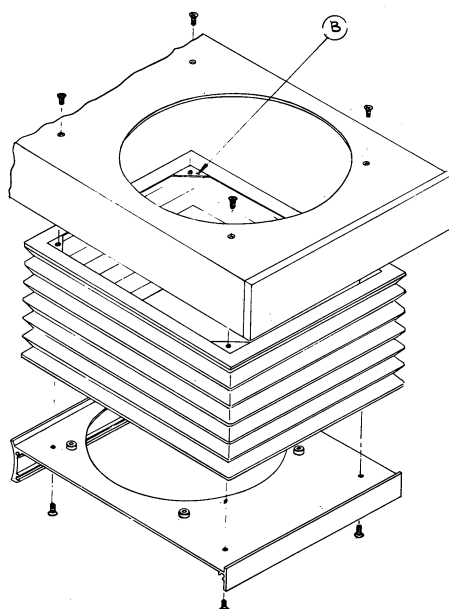

Figure A-1. Rework of Bellows Assembly
Procedure - Refer to figure A-1 and proceed as follows:
Press Nut Check - Using a #10 (5/32") Allen key, remove the center socket head screw and lock washer (C, figure A-1) from the lens stage. (Note that later versions use a 5/16" slotted head hex screw.) With a small penlight, check to see if the hole above (which has the front end of the screw in it) is surrounded by steel or black paint. If it is steel, the part is up to date and does not require replacement; however, if it is black, the lens stage swivel requires replacement, as described in the following paragraph.
- a. Loosen (but do not remove) the tension nuts (F, figure A-1) for both focus rods, located on the focus roller assembly.
- b. Remove the four Phillips head screws (G) on top and bottom of the focus rods.